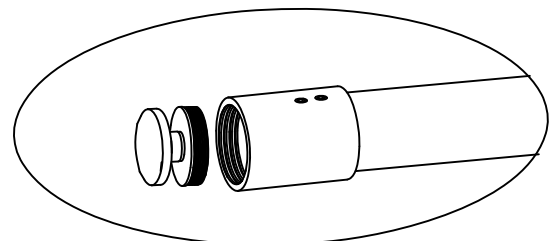

Fig. 10
- Locate the Rail Mount Assembly (22) and remove the stainless steel fitting and glass connector parts from the metal sleeve. Loosen the set screws in metal sleeve and slide onto end of Top Rail (2) making sure the end of sleeve which is threaded is facing toward end of top rail. Loosely tighten set screws in metal sleeve to secure. See Fig.10 for details.